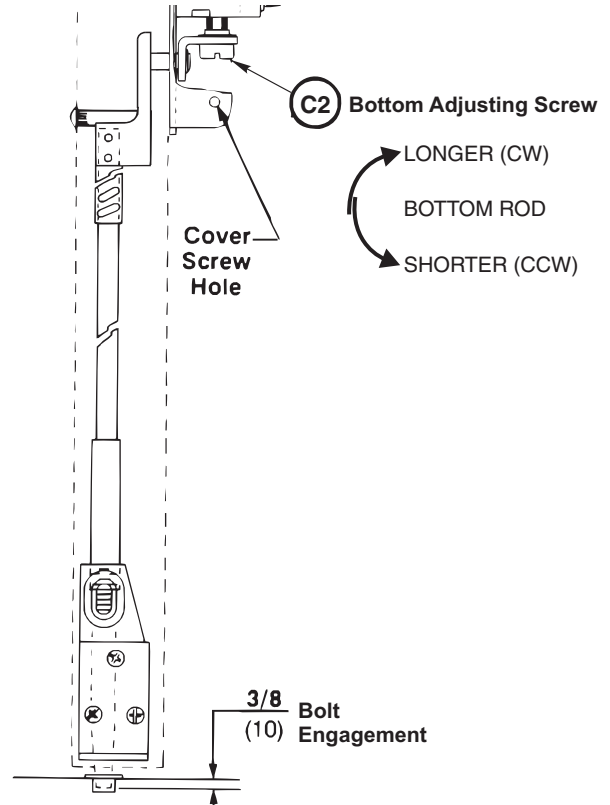

Figure 22
3. Adjust bottom rod with adjusting screw C2. (Figure 22) With top latch retracted in hold back position, and touchbar dogged or fully depressed, adjust bottom rod so deadbolt clears strike by $1/16"$ (1.6). Bottom rod should be in position in active case with square head of connector hanging in Guide. (See note in Step 2).